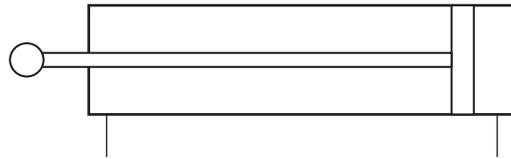

Fig. 4(a)(i)
- 4 (a) (i) The double acting cylinder in **Fig. 4(a)(i)** has a stroke length of 400 mm and is calculated to exert a force during the outstroke of 600 N. Calculate the work done. [1]